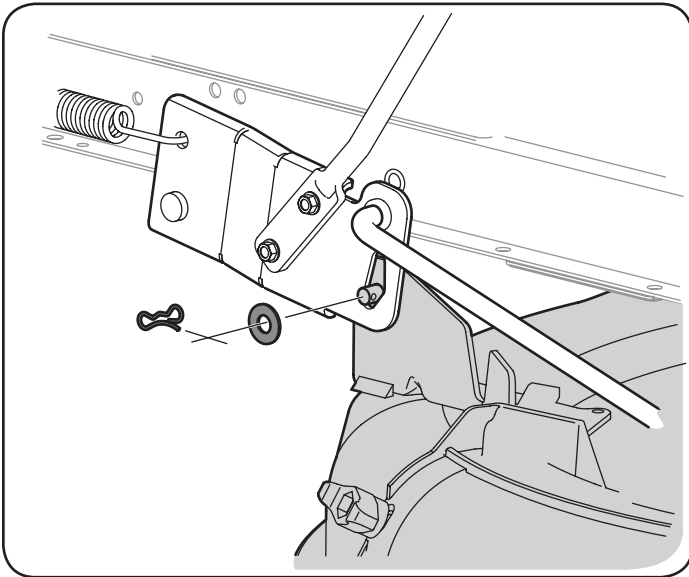

Figure 16
4. Remove the bow-tie cotter pin and flat washer from the deck lift assembly, and retain for reinstallation later. See "Figure 16".